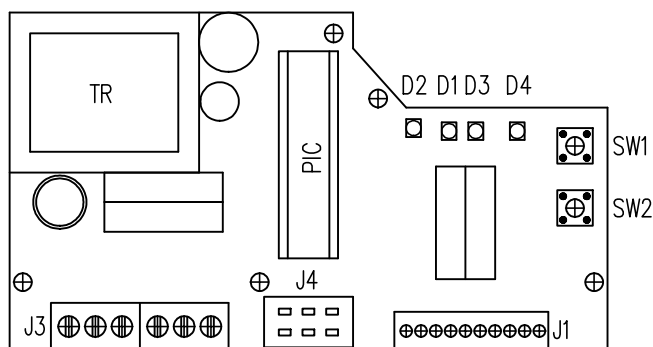

Fig.10
4.7 Adjustment of position controller (Fig. 10)
Laying of adjusters and signaling elements on the board of the REGADA controller is shown on Fig. 10: